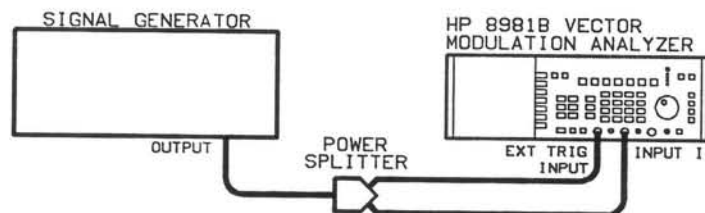

Figure 4-11. Minimum Trigger Level Test Setup
4. Connect the equipment as shown in Figure 4-11: